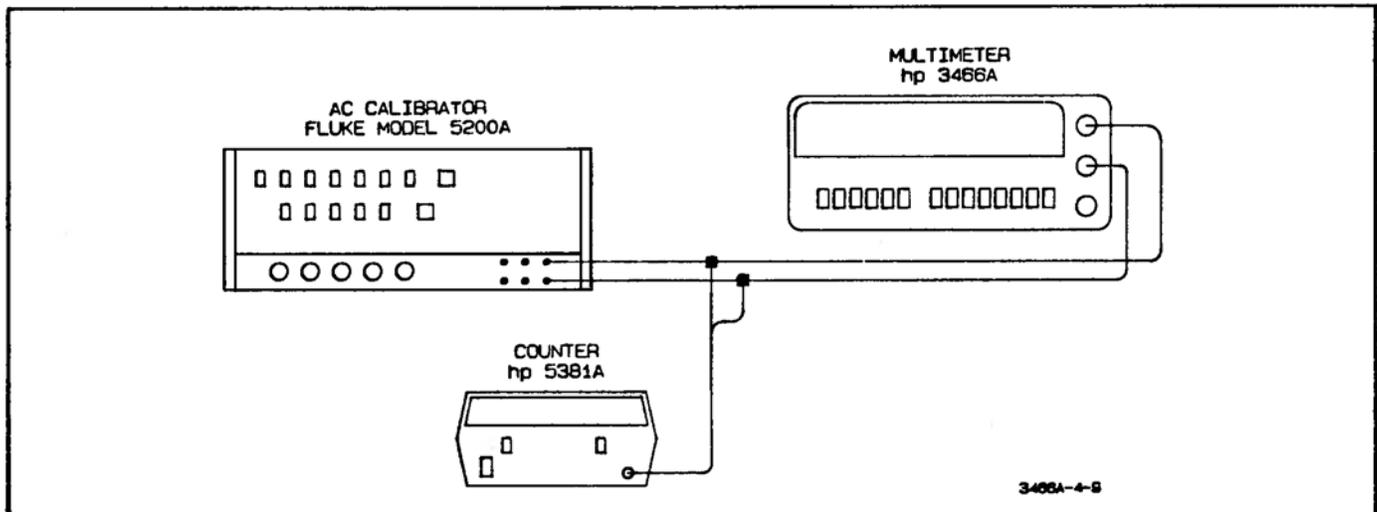

Figure 4-9. AC Normal Mode Rejection Test
- a. With the 3466A not connected to any test equipment at this time, connect the test equipment to each other, as shown in Figure 4-9.